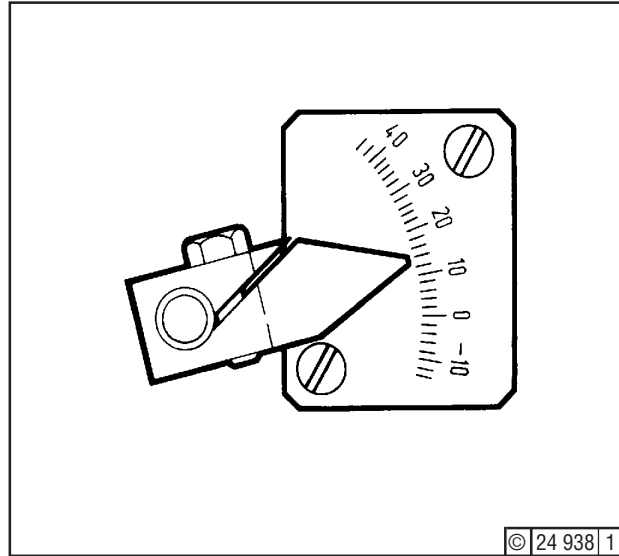

Fig. 15
12. Set stop screw A13 so that load indicator on injection pump points to graduation (14) - Fig. 15.